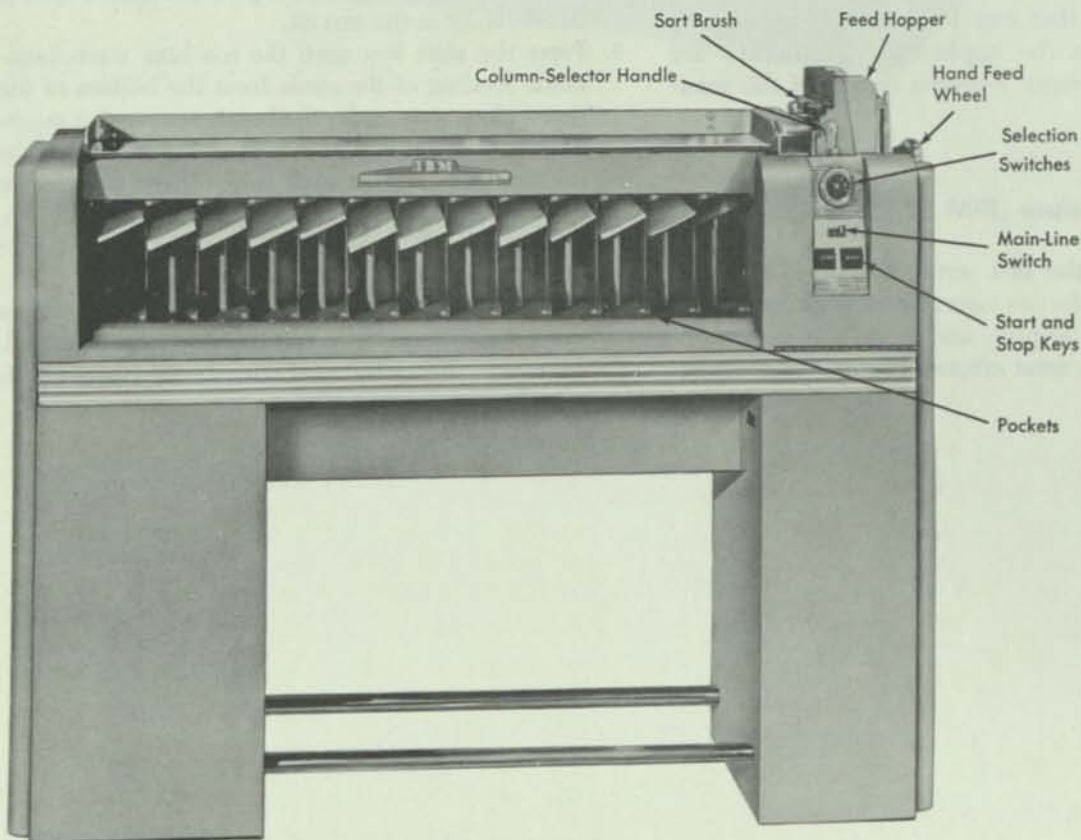
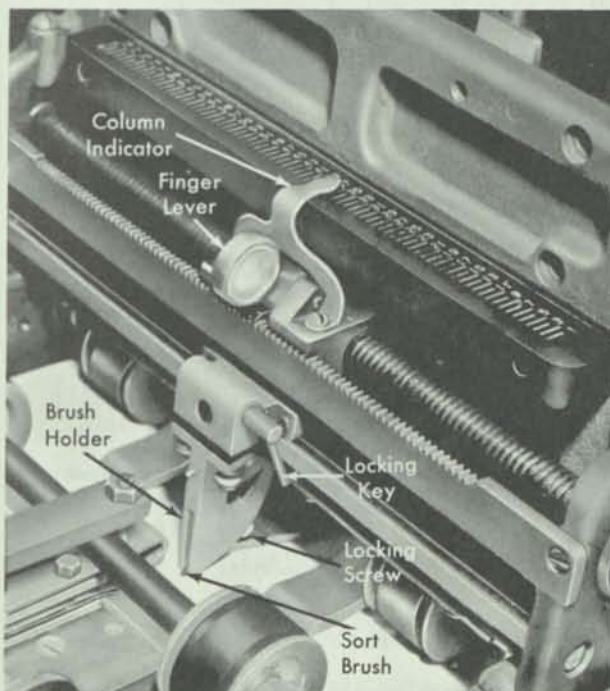

Figure 2. IBM 82 Sorter
Figure 4. Sort Brush and Column Indicator (82)
The card-feed hopper of the IBM 82 Sorter (Figure 2) holds approximately 1200 cards. The cards pass through the machine at the rate of 650 cards per minute.
The sort brush (Figure 4) is mounted in a holder immediately to the left of the card-feed hopper. The brush controls the chute blades that direct the cards to the various pockets. To set the brush on any column, turn the column-selector handle, which is on the front of the machine near the hopper (see Figure 2). The column indicator directly above the brush shows the column on which the brush is set. Each turn of the handle moves the brush one column. To move the brush across several columns at a time, raise the handle to the upper position (so the indicator is between columns), pull down the finger lever on the indicator, and move it to the desired column.
The 13 receiving pockets are arranged from left to right: 9, 8, 7, 6, 5, 4, 3, 2, 1, 0, 11, 12, R (see Figure 2). There is a pocket for each of the 12 punch-positions of a card column, and a reject pocket (R) for cards unpunched in the column being sorted, or cards that are not to be sorted according to the settings of the selection switches.
This wheel is on the right side of the IBM 82 Sorter (see Figure 2). To feed cards when testing the machine or removing a card jam, push in the wheel and turn it manually.